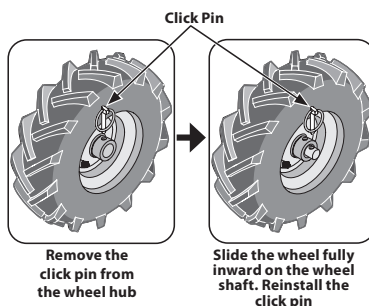

Figure 8
- Place a sturdy block under the transmission to raise one wheel about 1" off the ground. Remove the click pin from the wheel hub and wheel shaft. See Figure 8.
- Slide the wheel fully inward on the wheel shaft. Reinstall the click pin through the wheel shaft only (not through the wheel hub). See Figure 8. The wheel should now spin freely (FREEWHEEL) on the wheel shaft. Repeat with the other wheel.